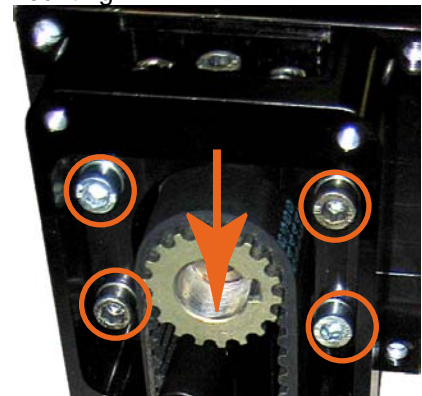

Figure 3
- ◆ Slightly loosen 4 screws ((Figure 2 Pos.7) by 1 or 2 turns. see Figure 3).